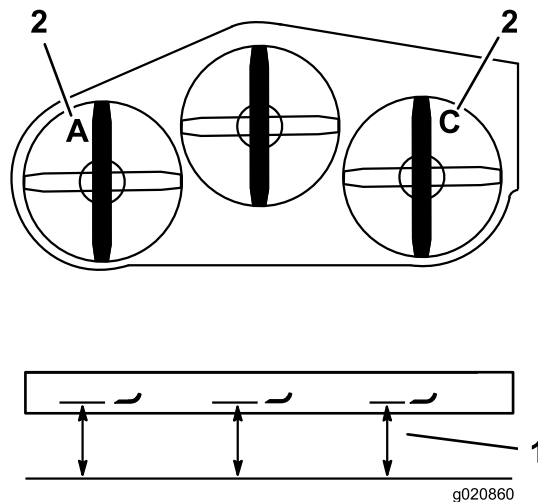

Figure 85
3. Measure the left blade at the **A** location, from a level surface to the cutting edge of the blade tip, and record this measurement (Figure 85).
4. Measure the right blade at the **C** location, from a level surface to the cutting edge of the blade tip, and record this measurement (Figure 85).
7. Adjust the adjustment bolts in the yokes, at locations **A** and **C**, to achieve the correct height (Figure 85).
3. Measure the right blade at location **C**, from a level surface to the cutting edge of the blade tip, and record this measurement (Figure 85).